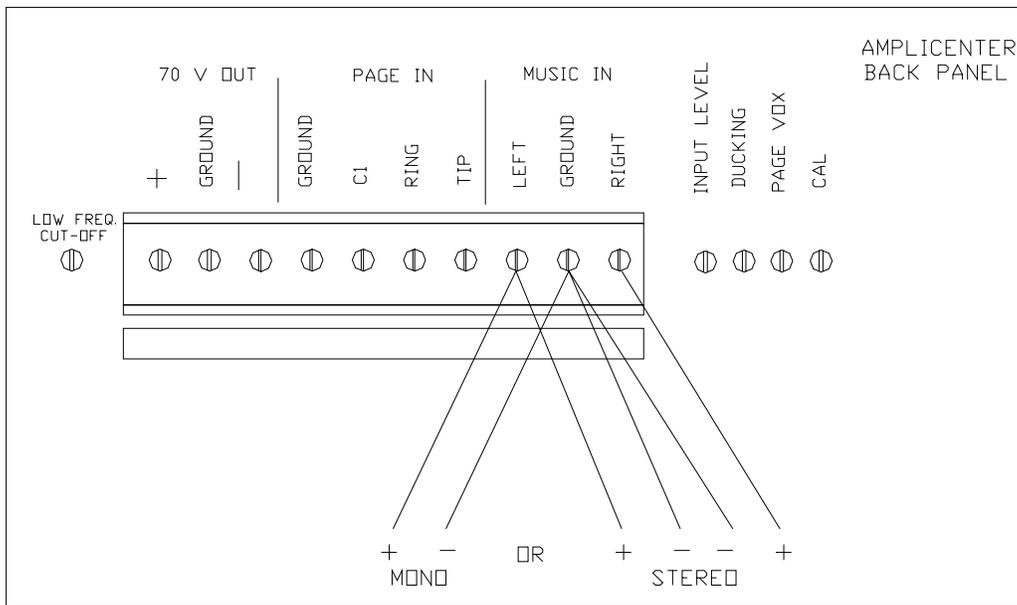

Figure 3. Music Input Connections on AmpliCenter
2. Connect music input wires to Left, Right, and Ground terminals if stereo, or Left and Ground if not (see Figure 3).